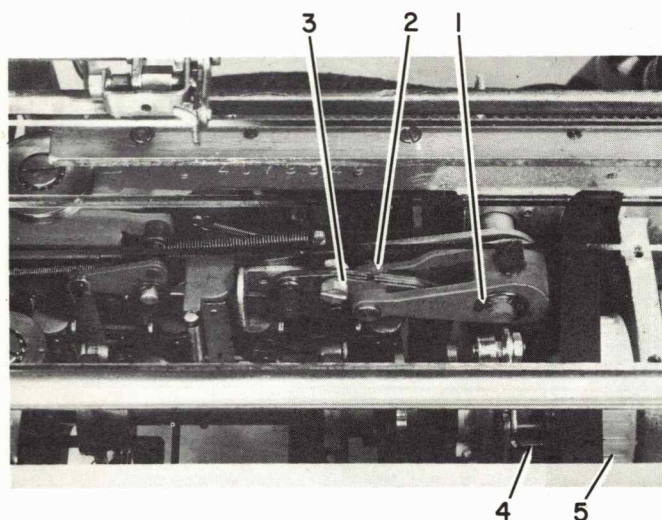

FIGURE 56. Cycle Clutch Pulley Removal
2. Remove the "C" clip from the rotate bellcrank pivot pin (#1, Figure 56).
4. Remove "C" clip and remove pivot pin (#2, Figure 56).
5. Push down on the rotate balance arm (#3, Figure 56) and lift up on the rotate bellcrank until the two are clear of each other and then remove the bellcrank.
7. Remove the bottom latch screw, loosen the top latch screw and slide the latch up and out (#4, Figure 56).
8. Take the belt off the pulley and remove the pulley (#5, Figure 56).